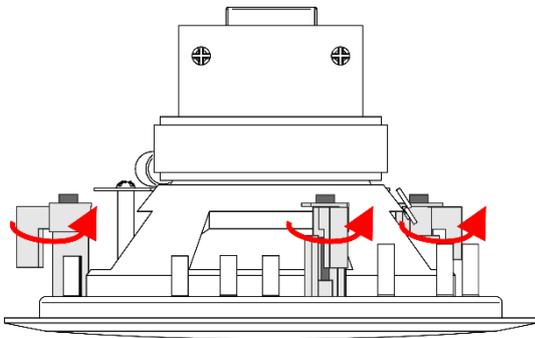

Fig. 02
- 05) Rotate the **mounting clamps (04)** on the subwoofer counterclockwise and push them downwards to release them, as shown on Fig. 02 and 03.